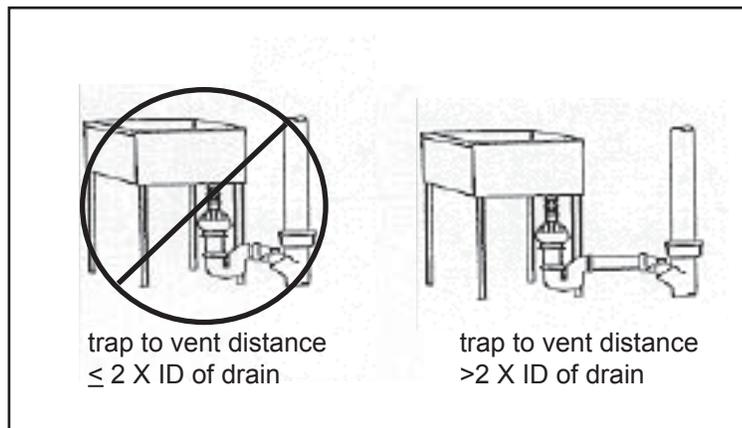

Figure 45. Minimum trap to vent distance
- Where the fixture trap is an integral part of the fixture, the measurement between trap and vent is made from the fixture outlet to the vent pipe opening. Figure 45 illustrates this point. For a floor outlet water closet or similar fixture, the measurement is made between the point where the fixture drain turns horizontal and the opening of the vent connection.
- **Minimum trap to vent distance.** Comm82.31 (9)(b) requires a minimum distance to be maintained between the trap weir and vent to more than two times the diameter of the drain piping. Where the vent is installed closer than this, the vent opening could be closed off completely under conditions of peak flow. This may cause fouling and/or clogged vent connections (Figure 45).